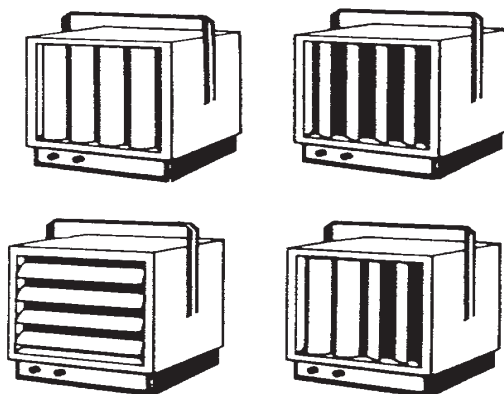

FIGURE 3
a. Before the unit is energized, the discharge louvers should be adjusted for desired air deflection. Louvers may be adjusted for either horizontal or vertical air deflection by rotating the louver frame. (See figure 3)